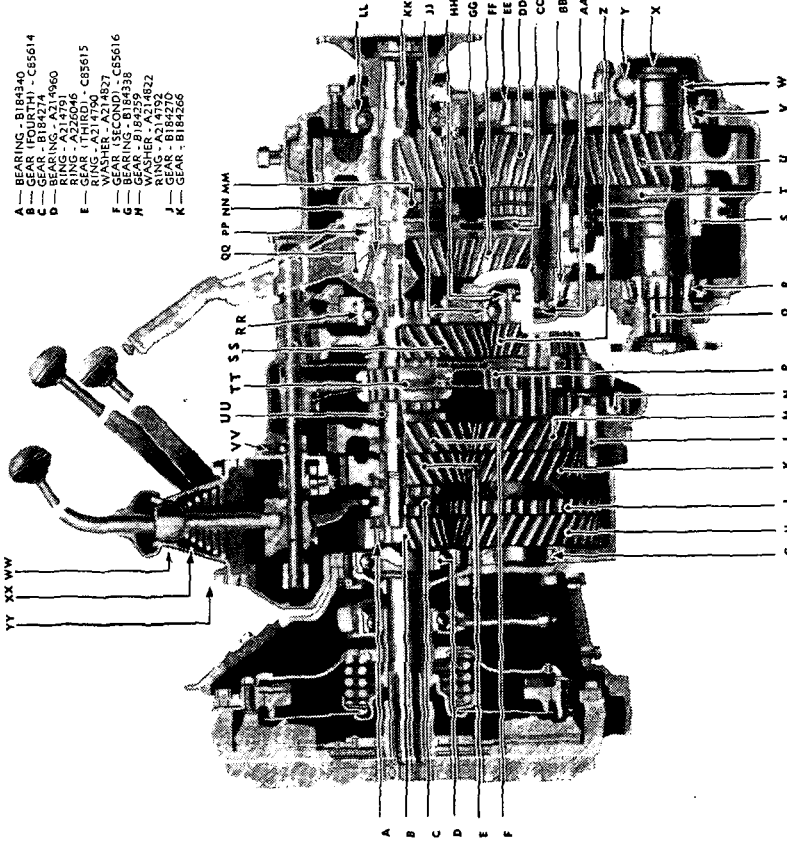

Figure 78.—Transmission assembly, sectionalized.
b. Operation (figs. 78, 79, 81, and 82).—Power is received by the transmission from the engine, through the clutch, and then through the transmission main drive gear, whose splined shaft engages with the clutch splined hub. Power then flows through the transmission,